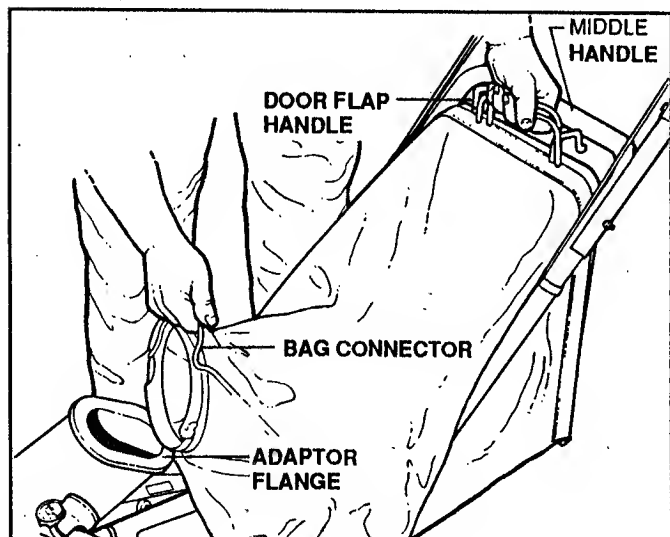

FIGURE 2.8
- B. Lift rear of bag up and over the lower handle. See Figure 2.8.